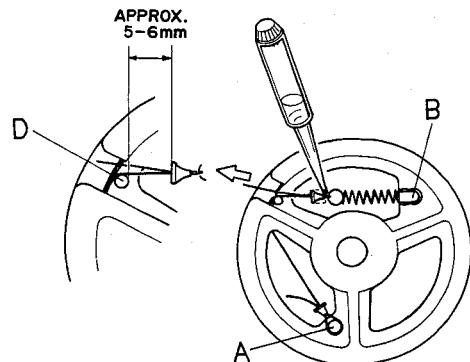

Fig. 5.1.8
- (4) Referring to Fig. 5.1.8, hook that Pulley Spring in the protrusion "B". Pull the dial thread so that a space of 5 – 6 mm can be obtained between the protrusion "D" and the thread guide.